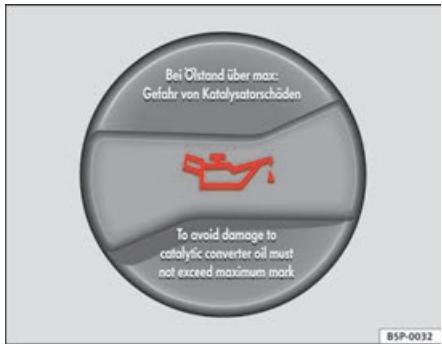

Fig. 129 In the engine compartment: Engine oil filler cap
- Unscrew cap from oil filler opening ⇒ **fig. 129**.